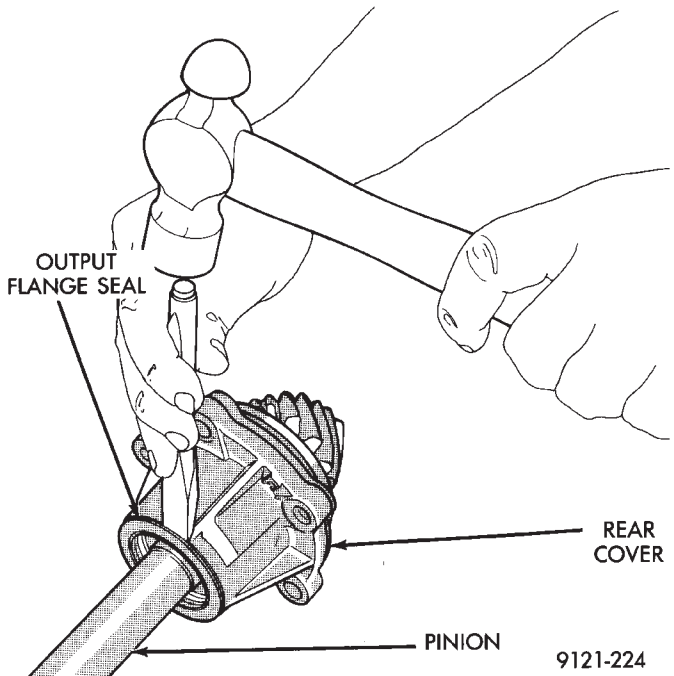

Fig. 10 Seal Removal
(9) Use a hammer and chisel to remove output seal (Fig. 10).